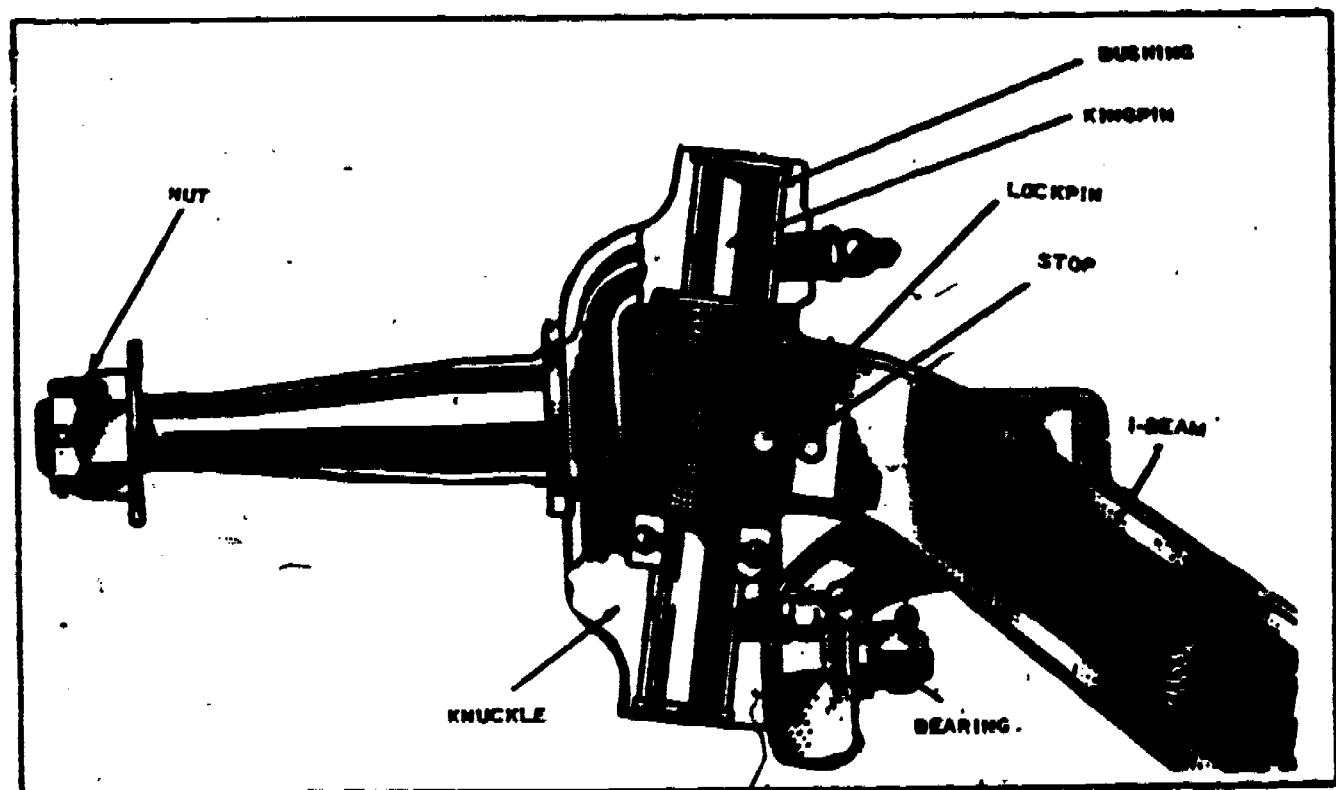

Figure 47. A Typical Steering Knuckle.
STEERING KNUCKLE. A typical steering knuckle is illustrated in figure 47. It is attached to the axle by a kingpin and bushings. In the ball joint suspension used by some of the modern passenger cars the kingpins are omitted. Excessive wear at the kingpins requires the installation of new kingpins, bushings, or bearings. In live front axles the wear may be adjusted by removing shims next to the taper roller bearing. The bearing must be lubricated as required.
4. Figure 47 shows a lockpin. What does this pin lock?